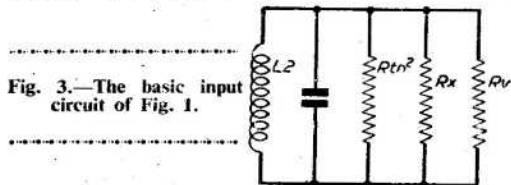

Fig. 3.—The basic input circuit of Fig. 1.
Having now got a little more to work on we can re-draw the input circuit of Fig. 1 to its basic form as shown by Fig. 3. Here C represents the capacitance across L2 as previously defined, while R_v is the input resistance of the valve. The resistor R_x is an element which may be found necessary to include across the tuned circuit so that it will embrace a bandwidth as determined by equation (1), and is usually termed the damping resistor. In certain instances, however, especially in a circuit where the shunt capacitance is